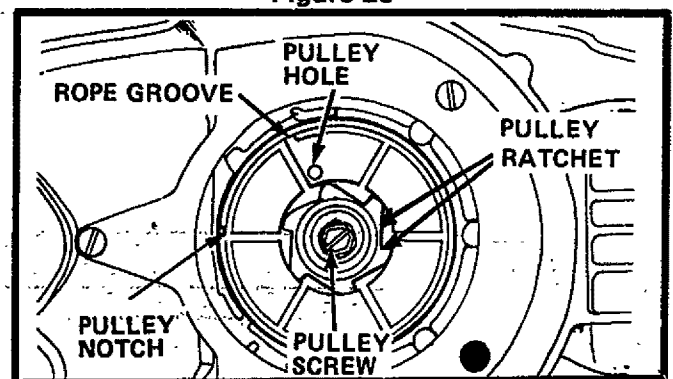

Figure 29
9. Remove screw and pulley very carefully. Figure 29. **The recoil spring which lies beneath the pulley must stay in the housing, flat against the bottom. If the spring is disturbed, it will require considerable time and effort to reinstall.** Twist the pulley gently clockwise → as you pull up to release the spring.
16. Replace pulley in the housing. Be sure the pulley is all the way down and the spring is secured. Replace screw and tighten. Figure 29.